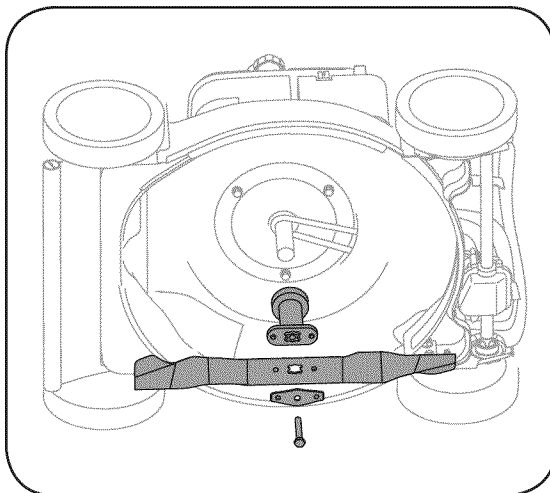

Figure 5-3: Remove blade and related hardware.
2. Remove bolt, bell blade support, blade, and blade adapter from the engine crankshaft. See Figure 5-3.